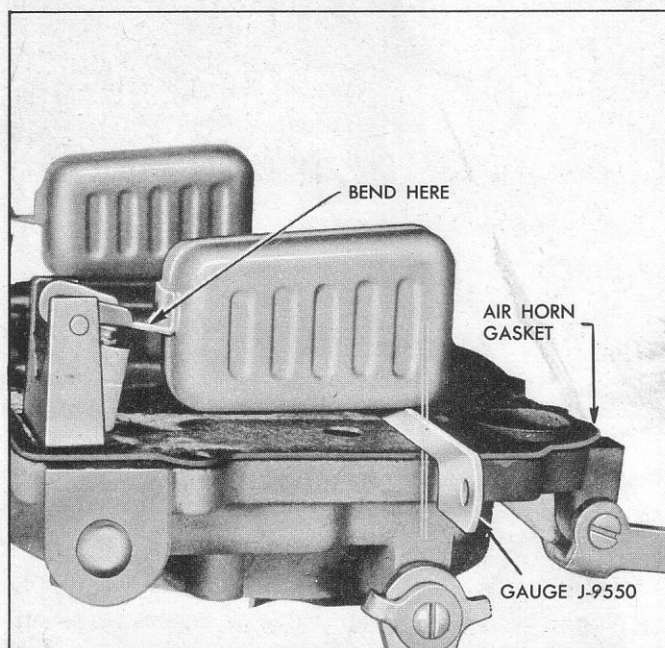

Fig. 99—Adjusting Float Level
6. Adjust Float Level. With air horn inverted and air horn gasket in place, check clearance between each float (at outer end) and air horn gasket using Float Gauge J-9550 chain set or a $\frac{5}{16}$ " drill (fig. 99). To adjust, bend float lever. After any adjustment, recheck float alignment.